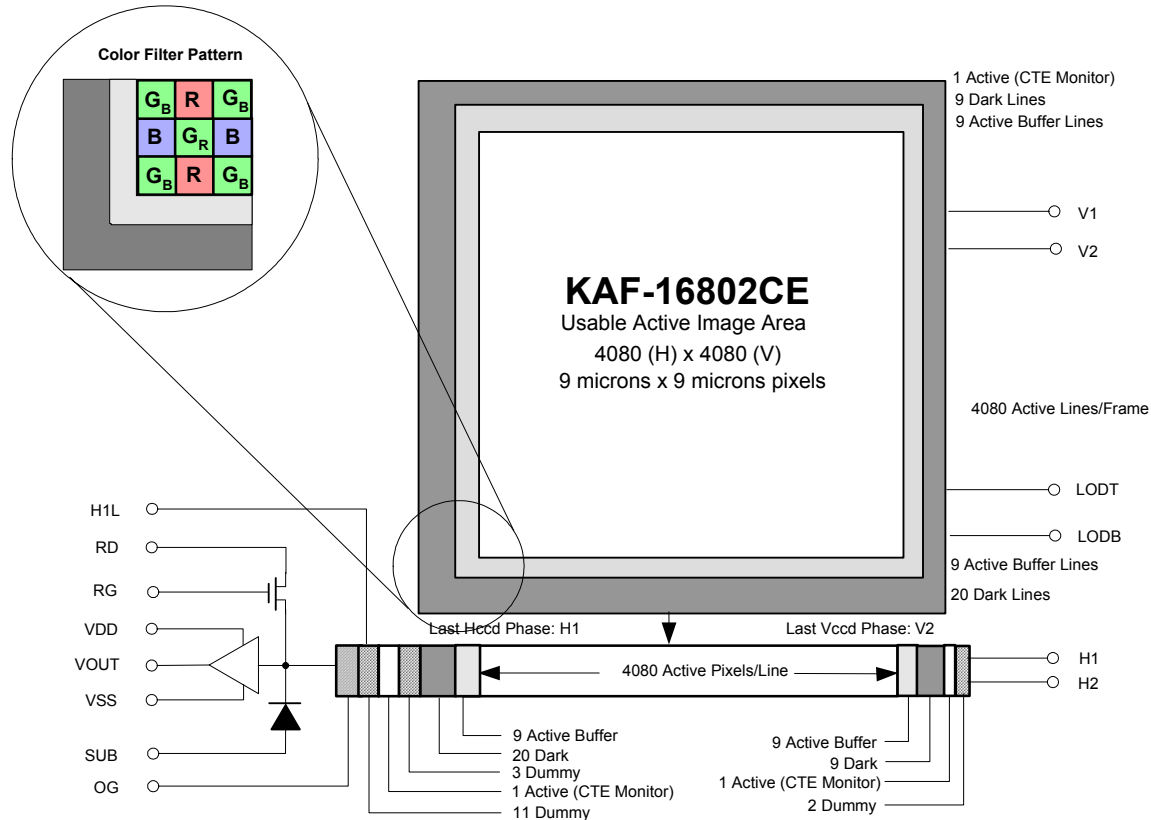

Figure 1 - Sensor Architecture
| PHYSICAL DESCRIPTION | 8 | Figure 1 - Sensor Architecture | 4 |
The KAF-16802CE/LE is a high performance array CCD (charge coupled device) image sensor with 4080(H) x 4080(V) photoactive pixels designed for a wide range of color and monochrome image sensing applications including digital imaging. Each pixel contains anti-blooming protection by means of a lateral overflow drain thereby preventing image corruption during high light level conditions. In the color version each of the 9 μ m square pixels are selectively covered with red, green or blue pigmented filters for color separation. The photoactive pixels are surrounded by a border of buffer and light shielded pixels as shown in Figure 1. Total chip size is 38.60 mm x 37.76 mm and is housed in a 34 pin, 2.010" wide DIL ceramic package with 0.100" pin spacing.